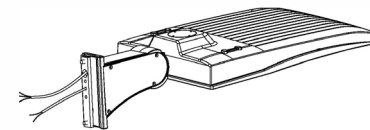

Figure 4
Step 2. Install the bracket on the fixture, and close access cover (Figure 4)